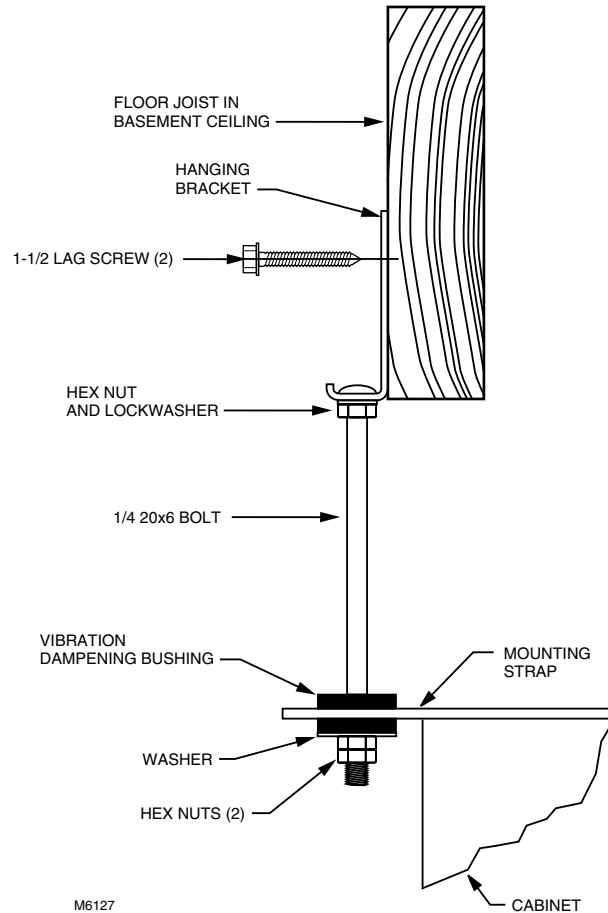

Fig. 4. Typical mounting when suspending unit from basement ceiling with four suspension bolts (one shown).
- ❶ Attach two mounting straps to the bottom of the Fresh Air Ventilation System cabinet. Use four of the no. 10-24 x 1/2 in. round head machine screws and four no. 10 internal tooth washers supplied in the hardware package.
- ❷ Attach a pair of hanging brackets to a joist. See Fig. 4. Space the brackets 25-1/4 in. apart on centers. Use two 1-1/2 in. lag screws to secure each bracket.
- ❸ Locate and attach the remaining pair of brackets on a joist so each pair is 32 in. apart and perpendicular to each other.
- ❹ Install a lock washer and a hex nut onto each of the four 6 in. bolts. Thread each hex nut to 1/2 in. below the bolt head.
- ❺ Insert the bolts through the mounting strap bushing and secure each bolt with a pair of hex nuts. See Fig. 4.
- ❻ Raise the cabinet to slip the heads of the bolts over the edges of the brackets and allow the bolt shanks to engage the slots in the brackets. Tighten the lockwasher and hex nut upward against the bottom of each bracket. The cabinet is now positioned for attachment of ducting.